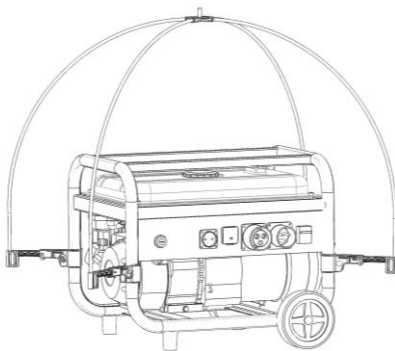

Fig. 3.3
- f. Check the clamps; the frame rods should be fully seated into the clamps. (Fig. 3.3) The clamp may exhibit a slight upward lean; this is due to the force being applied to the clamp by the fiberglass rods.